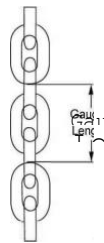

Figure 7. Gauge Length
4.3.3 Load chain Carefully inspect the chain for wear between the links in the section of chain that most often passes over the sheaves. Check several links, as wear is seldom even from one link to another. The chain should be replaced if wear has increased beyond the specified gauge length limits. Chain gauge is attached to each unit for convenience. (See Figure 7) If chain gauge is missing, measure the gauge length by caliper.
6.1.4 By grinding or cutting, notch the link as shown in Fig. 7. Do not bend or distort the link.